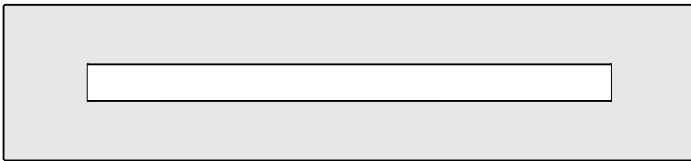

Figure 34a - VFL48SP
2. Apply the accessory decorative glass or rocks to the shaded area only. Use enough to cover the floor of the fireplace, but do not allow the decorative glass or rocks to reach higher than the flange surrounding the burner. Never place decorative glass or media inside the flange surrounding the burner itself. **See Figures 34a & 34b.**